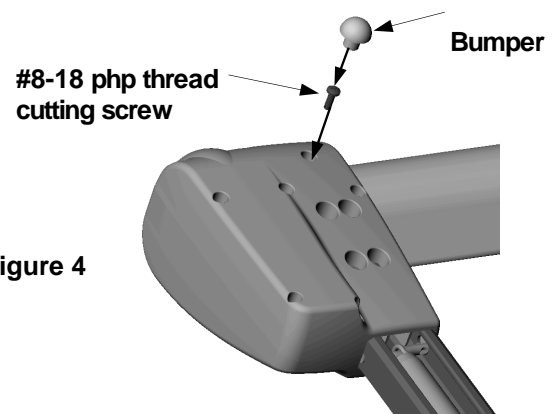

figure 4
C. Secure Motorized assembly to Roller Bar assembly by using one #8-18 x 3/8" Phillips head thread cutting screw through the access hole on the back of the cover as shown in **figure 4**. **IMPORTANT: Make sure screw head is deep enough in so that it does not interfere with the case.** A 12-V DC power source will be necessary to do this on the Motorized side.